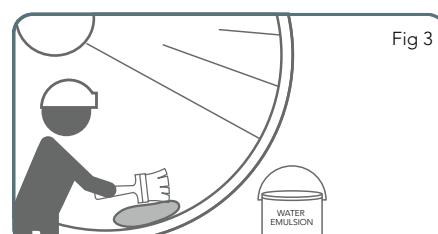

Fig 3
- Ensure that the gasket is correctly in position by inserting the end of a metal ruler through the annular spigot and socket gap until it touches the gasket. The ruler must penetrate to the same depth around the whole circumference. If a difference is found, the gasket may have been displaced and the joint should be dismantled and attempted again (See fig 3)